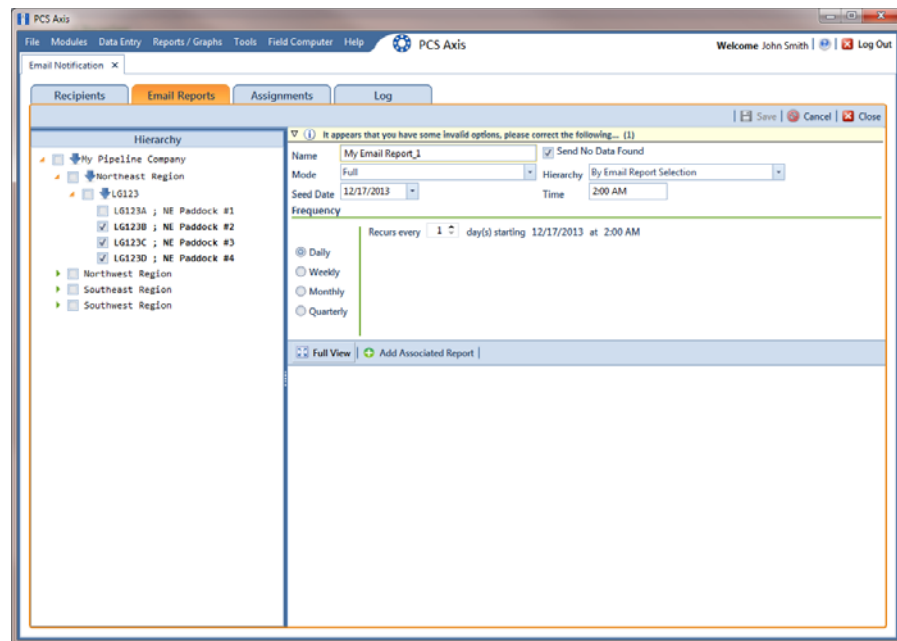

Figure 12-8. Email Reports
- a Click the toggle arrow  in the *Hierarchy* panel to view a list of pipeline segments in the hierarchy (Figure 12-8).